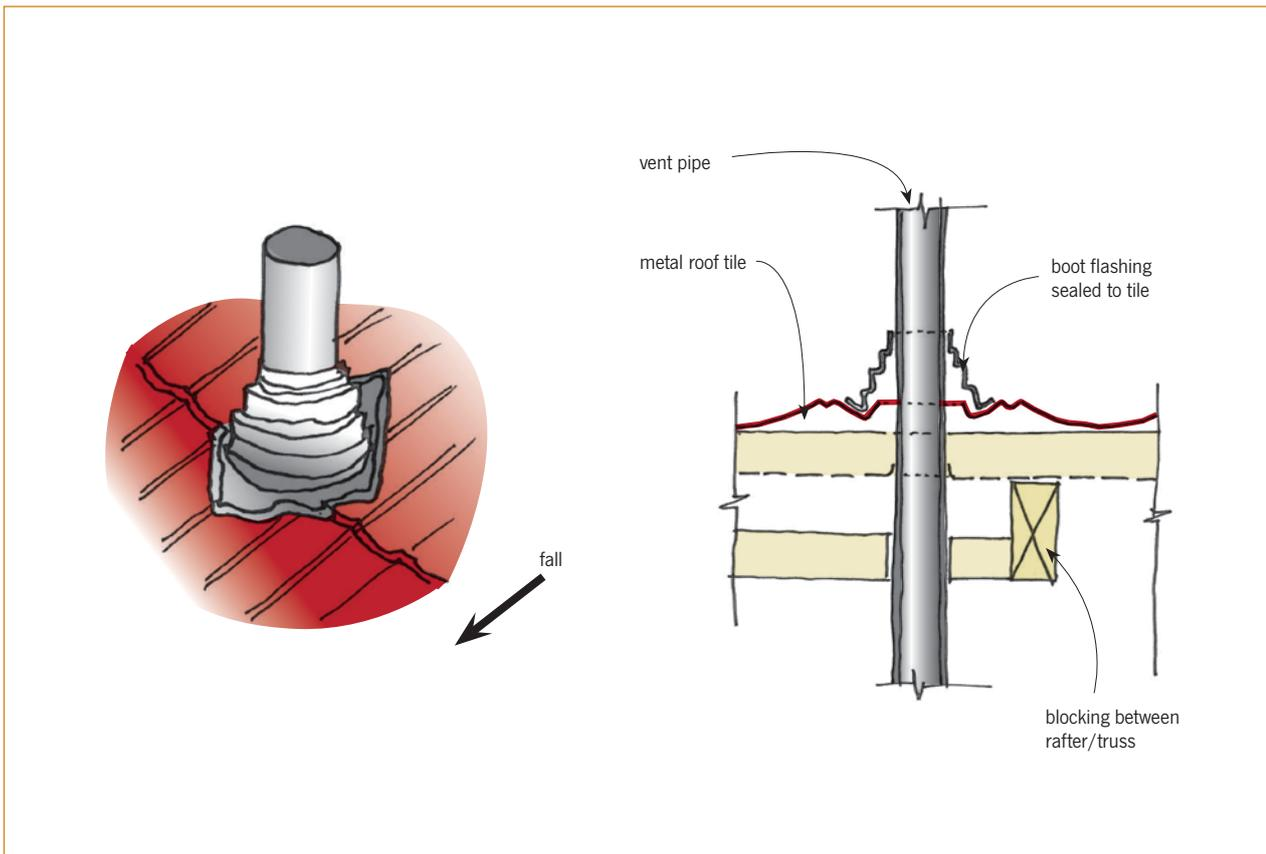
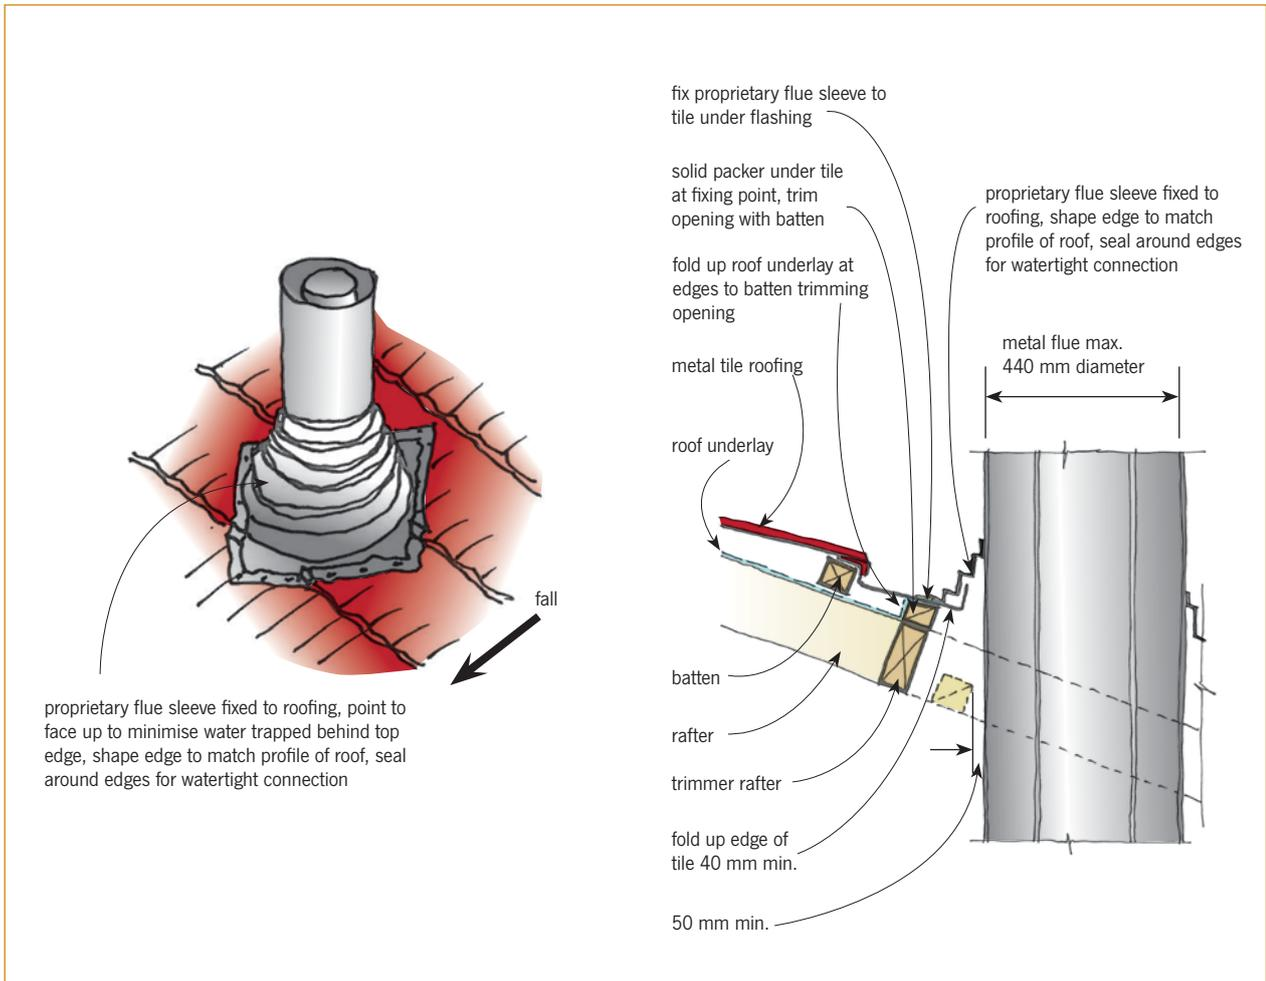

Figure 6. Roof penetration.
Figure 7. Larger penetrations – note that additional side and bottom details are contained in BRANZ *Weathertight Solutions Volume 5* Section 3.
13. Form roof penetrations with a proprietary neoprene boot flashing following the flashing supplier's installation instructions (Figure 6). For larger penetrations, such as a flue, the tile adjacent to the flue should have the edges turned up 40 mm before the boot flashing is installed (Figure 7). Where a batten is cut, additional support will need to be provided.